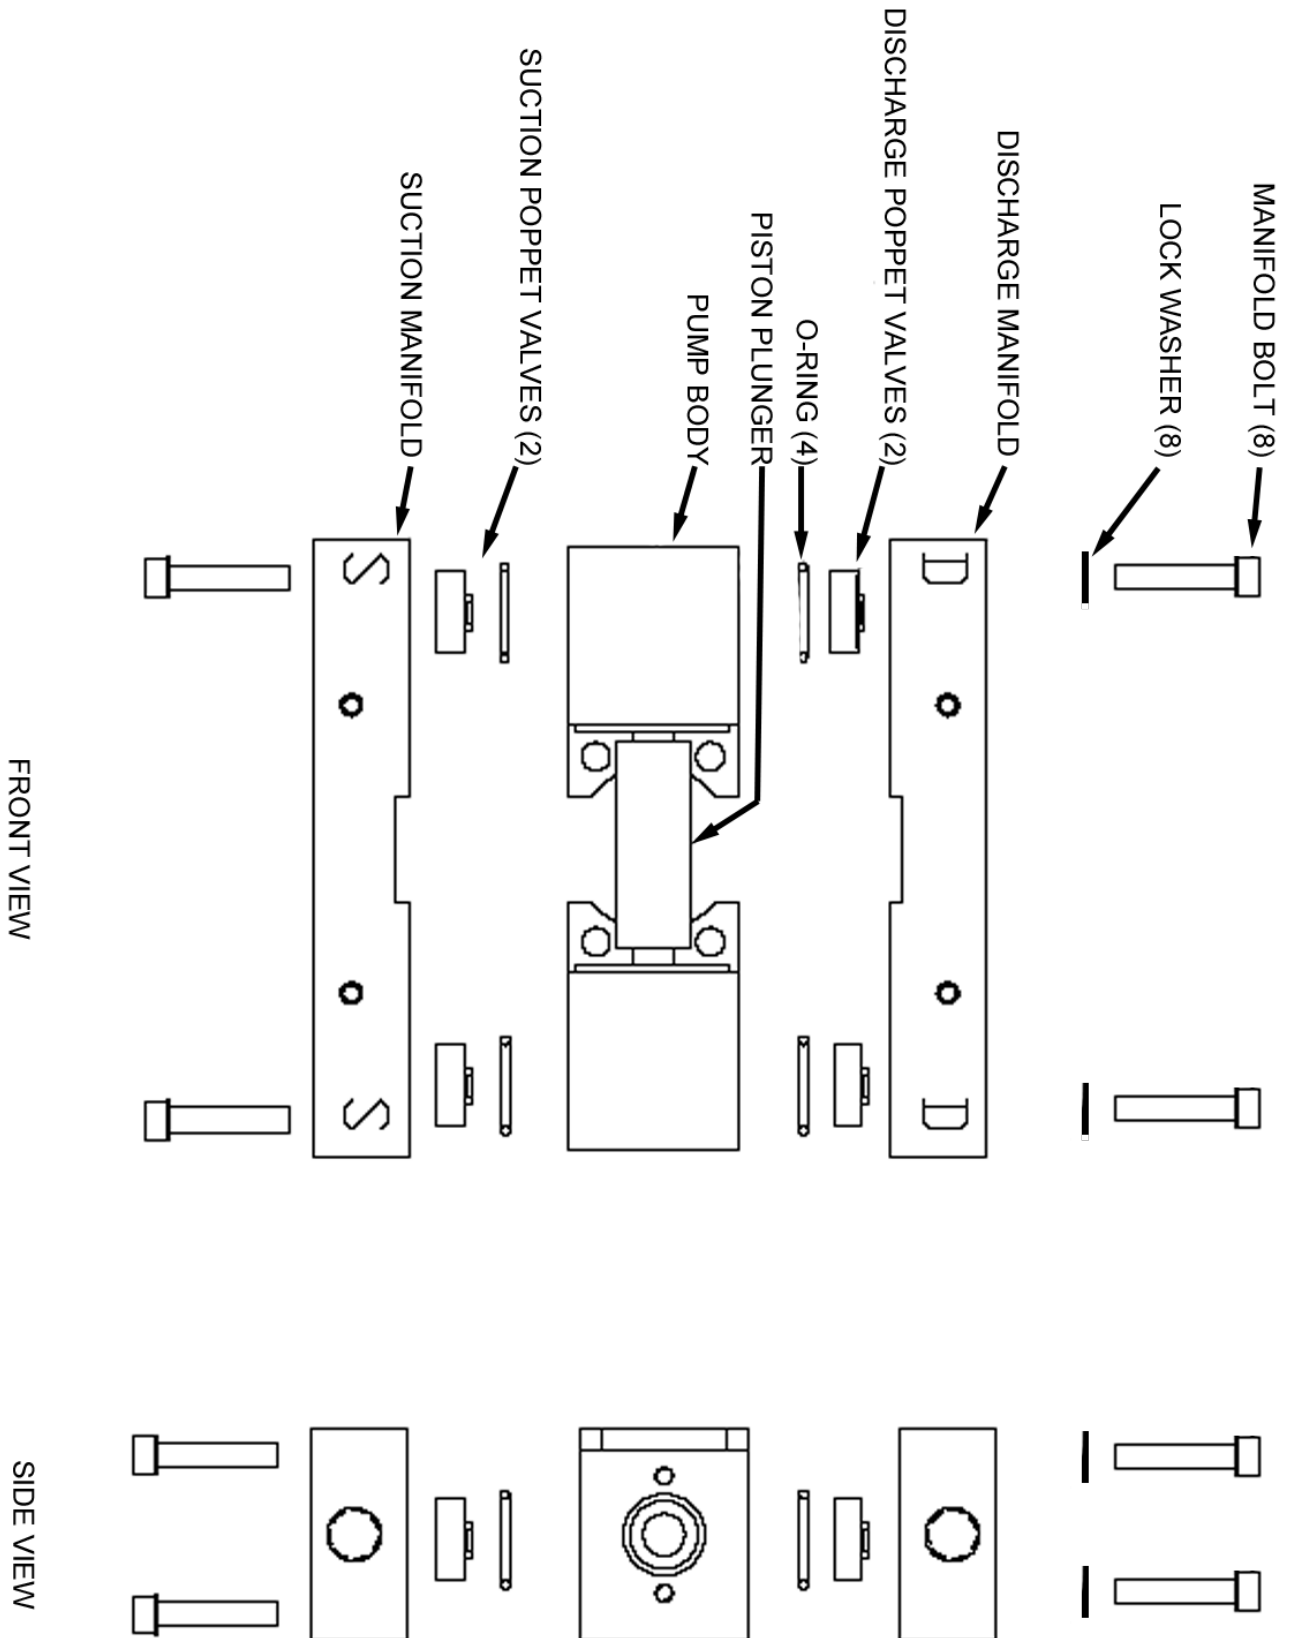

Figure 2: Assembly Diagram (1)
- Figure 2: Assembly Diagram (1) 10